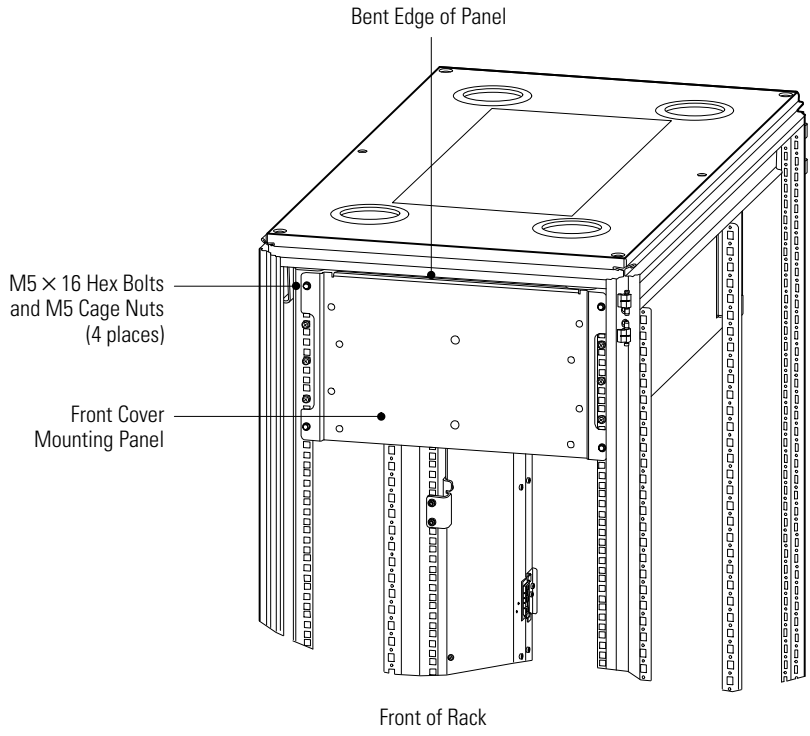

Figure 20. Front Cover Mounting Panel Installation
- 22. Using four M5 × 16 hex bolts and four M5 cage nuts, secure the front cover mounting panel to the front of the rack. Ensure that the bent edge of the panel is at the top. See Figure 20.